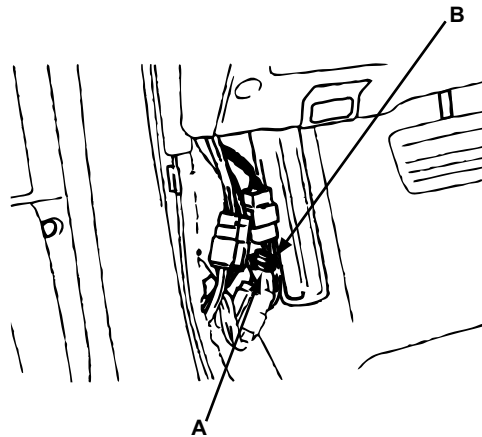

Figure 15-50 1993–94 Legacy ABS Check connector location
- 1993–1994 Legacy/Outback, Sedan and Wagon (Figure 15-50 on page 216)
3. Ground the ABS Check connector terminal L (Figure 15-50)
1. Disconnect the ABS Check connector terminal L from ground (Figure 15-50).